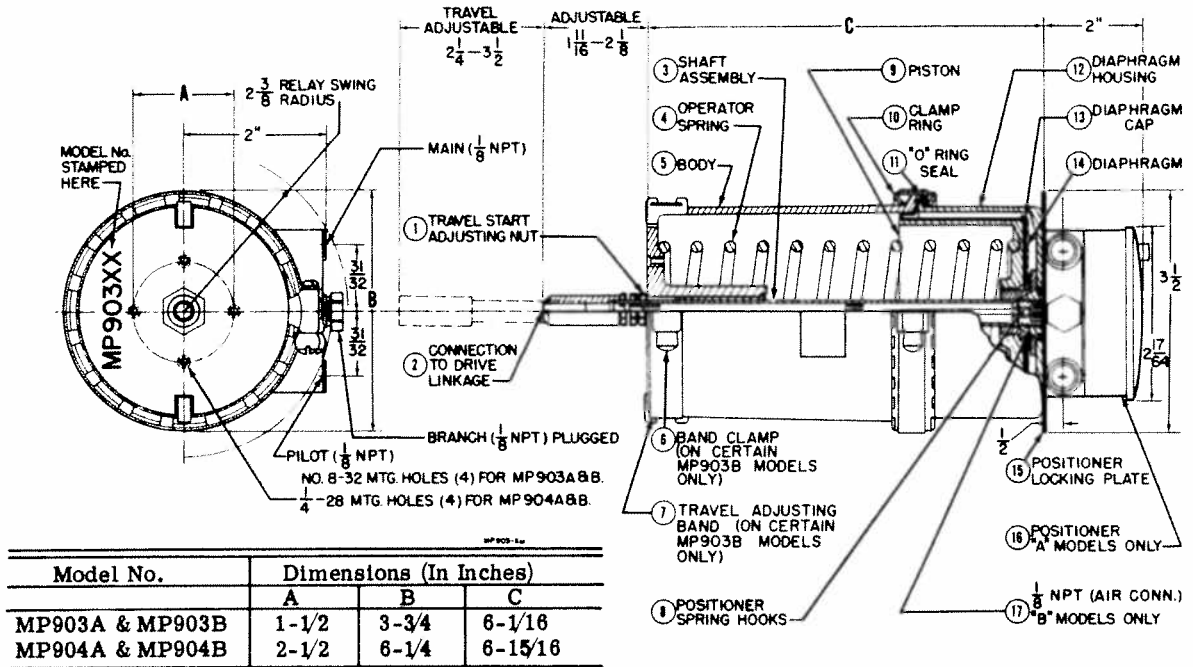

Fig. 7—MP903 and MP904 Dimensions and Details (MP903 Shown).
NOTE: A damper position other than fully closed or fully open at the start of stroke can be adjusted at the ball-joint connection to the pushrod. For dampers starting at a position other than fully closed and driving to fully open or in certain mixing box applications, the travel finish adjustment band on certain models of the MP903B only (7, Fig. 7) must be readjusted to reduce the length of operator stroke. This is to prevent overdriving the damper. Damper blades 7 inches and larger require the maximum 3-1/2 in. travel. Damper blades narrower than 7 inches require a 2-1/2 in. shaft travel. It should be noted that a 2-1/2 in. shaft travel adjustment will result in an actual operating range of 5/7 of the range of the operator (or 5/7 of the range set on an operator with a positioner). See the "Shaft Travel (Stroke) Limiting Adjustment" section under "ADJUSTMENTS".
1. Insert a screwdriver or similar tool into the slots in the positioner locking plate (15, Fig. 7).
4. Install the ball-joint assembly (4) on the damper ear (3).
Refer to Figure 7.